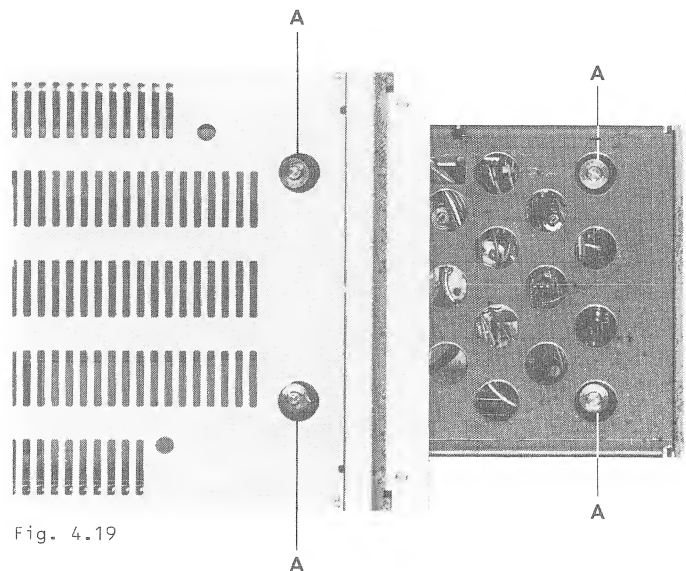

Fig. 4.19
- Switch CD player off and open the drawer manually about 3/4 of the way (the two rear brass screws should be visible through the openings in the bottom panel, see Fig. 4.19).
- Unfasten the four player mechanism fastening screws (A).